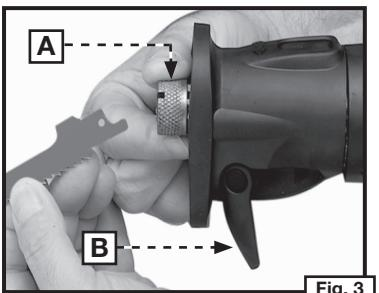

Fig. 3
NOTE: You can temporarily remove the keyless Quik-Change™ pivoting guide shoe to make blade installation easier. Release the locking lever (B) Fig. 3 to remove (see **Pivoting Guide Shoe Adjustment With Keyless Quik-Change™** section of this manual).